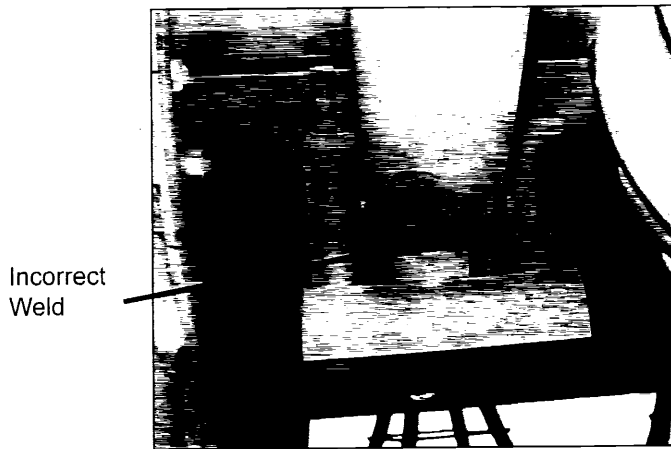
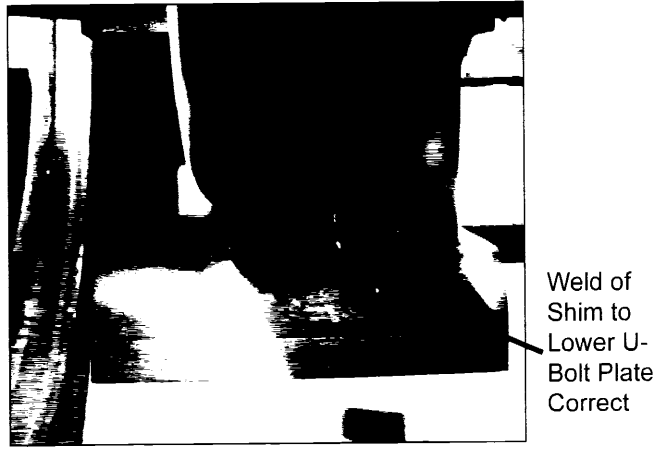

Figure 2a
Figure 2b
A. If the Axle Shim is welded on the upper side to the 3-inch Trailing Arm, the Trailing Arm needs to be replaced (see Figure 2a). If the Axle Shim is welded on the lower portion to the Lower U-bolt Plate, the Trailing Arm does not need to be replaced (see Figure 2b).